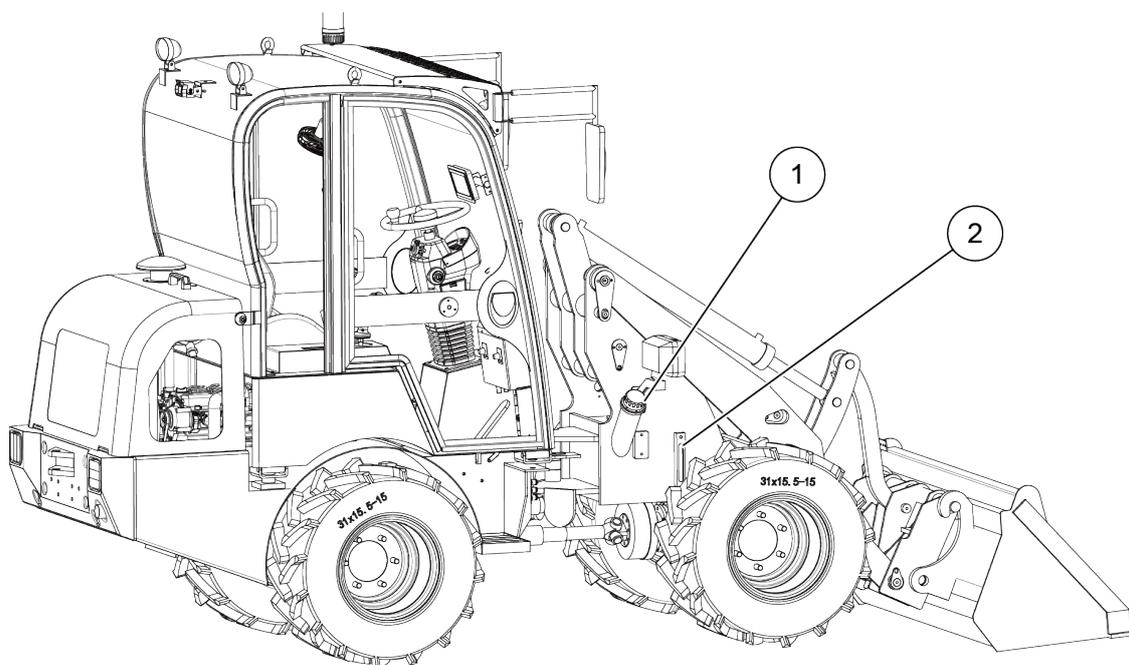

Figure 6-5 Fuel tank and level gauge
Step 2: Check the fuel level from level gauge (2) outside. When the fuel is below the lower limit, unscrew the cap (1) to add fuel. The fuel shall not exceed the upper limit of level gauge (2), as shown in Figure 6-5;